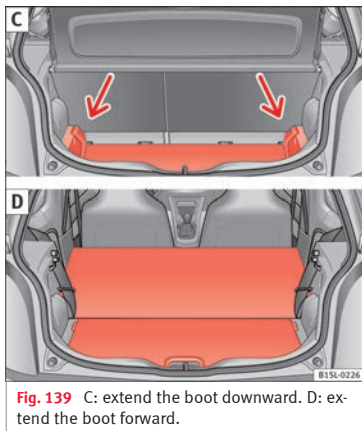

Fig. 139 C: extend the boot downward. D: extend the boot forward.
- Raise the boot floor and push it downward in the rail »» Fig. 139 C (arrows)